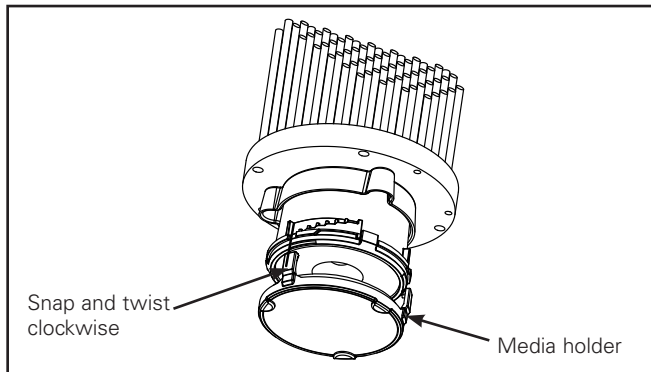

Figure 6
2. Also available, is a single/double media holder. To install, place the media onto the media holder. Engage snaps at bottom of snap staircase. Twist clockwise until tight (see Figure 6).